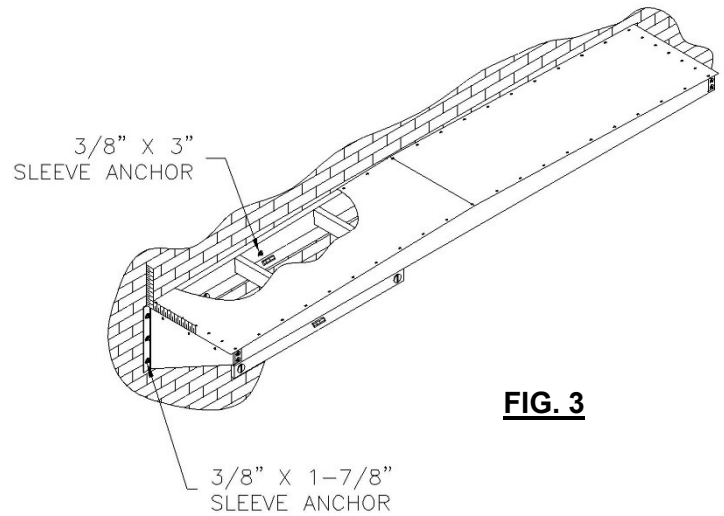

FIG. 3
- i. Place head frame on marks on wall (Fig 3).